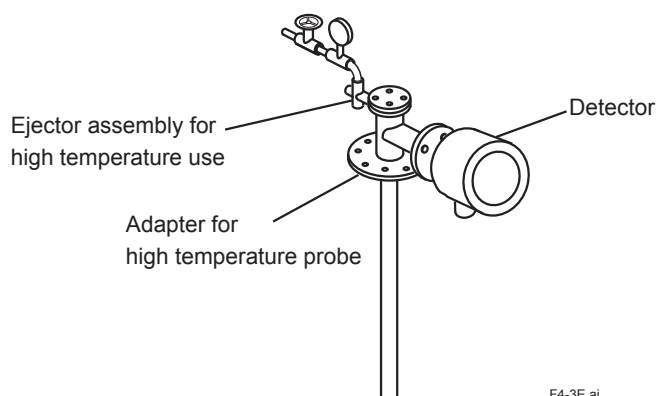

Figure 4.3 Mounting the ejector assembly
- If the sample gas is under negative pressure, connect the ejector assembly (E7046EC/ E7046EN) as illustrated in Figure 4.3. Mount the pressure gauge as close as possible to the ejector assembly. However, if the ambient temperature is too high, mount the gauge in a location with a temperature below 40°C.
- If a high temperature detector is used and the sample gas pressure is negative, connect an ejector assembly to the sample gas exhaust hole of the high temperature probe adapter (see Section 4.1.4, “Figure 4.3 Mounting the ejector assembly”).